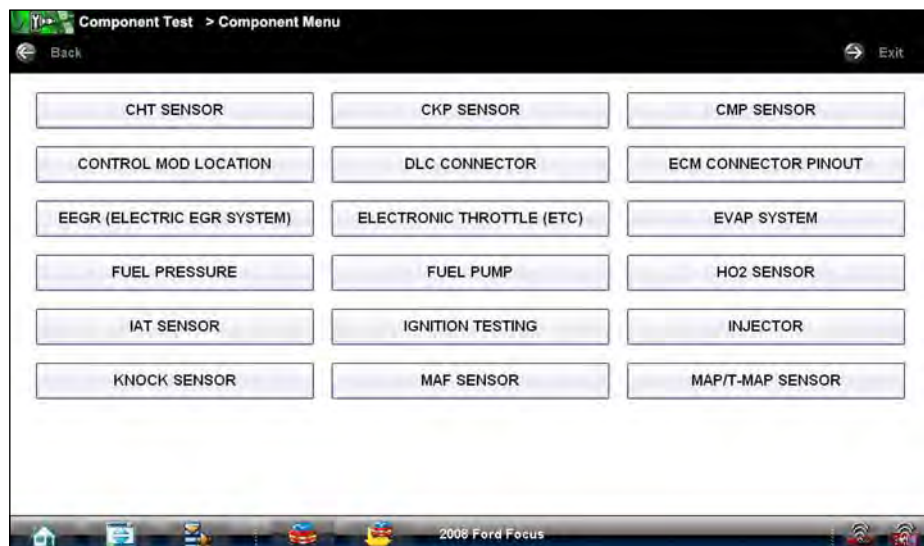

Figure 7-5 Sample available tests list
9. A list of tests available for the identified vehicle displays, select a test to continue (Figure 7-5).